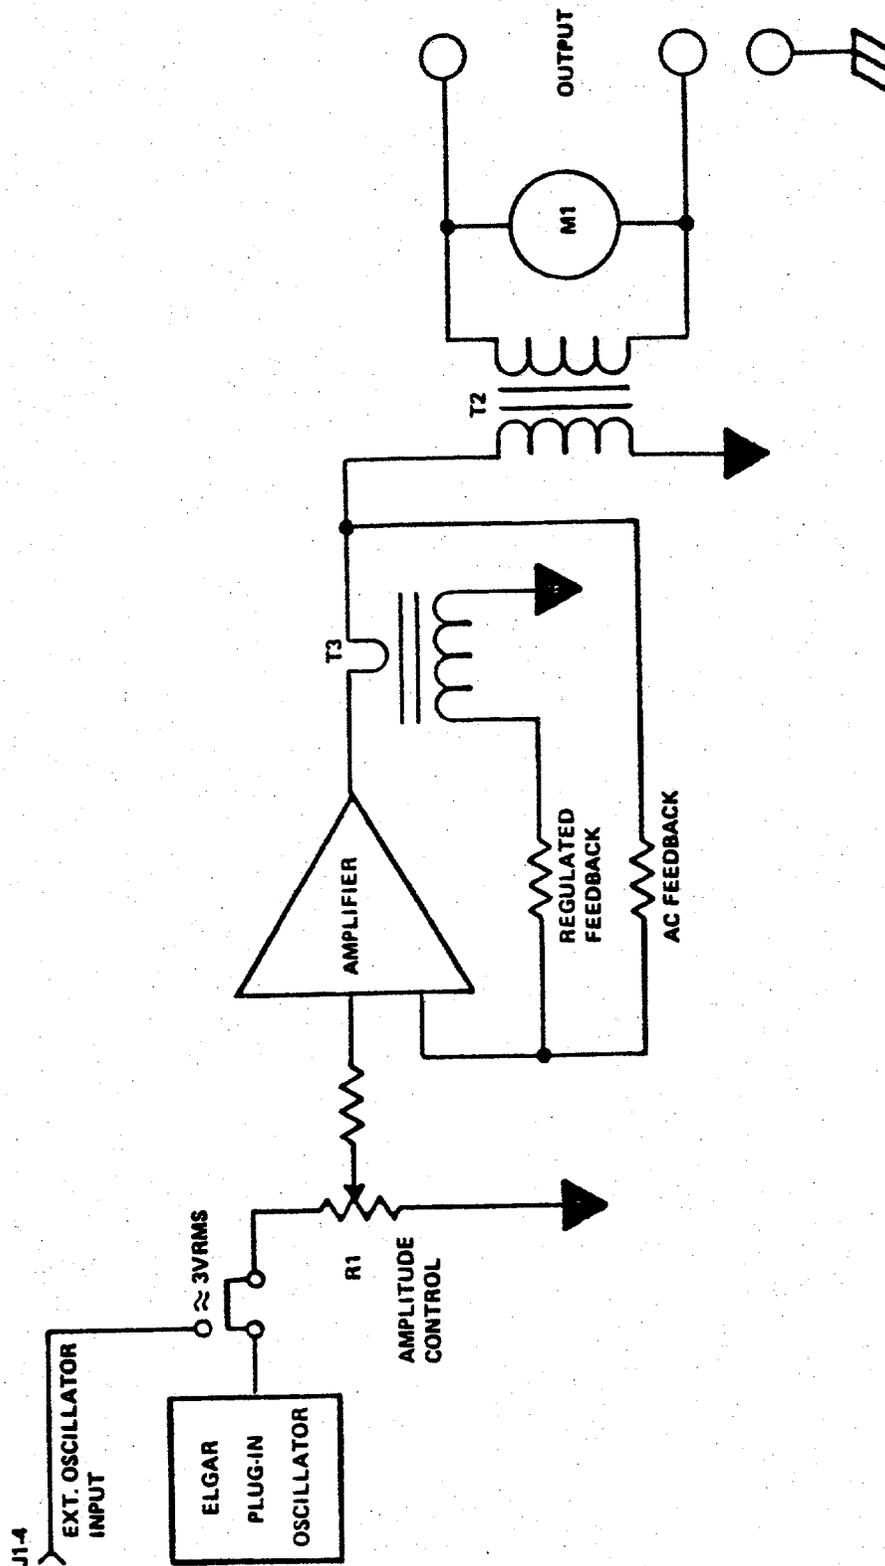

Figure 4-1. Model 251B and 501B Block Diagram
4.1 CIRCUIT DESCRIPTION (Refer to Figures 4-1, 7-1, and 7-2)